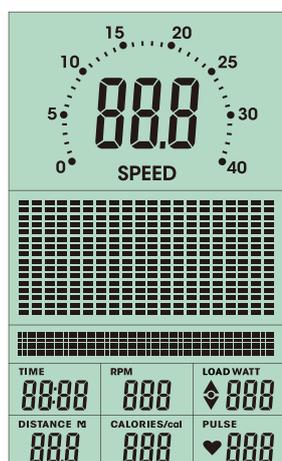

FIGURE 1
1. Connect power supply to the monitor or press the RESET button for 2 seconds, the LCD will display all screen sections at once with a long- beep sound, then displays 78.0 like (FIGURE 1 & 2) below.